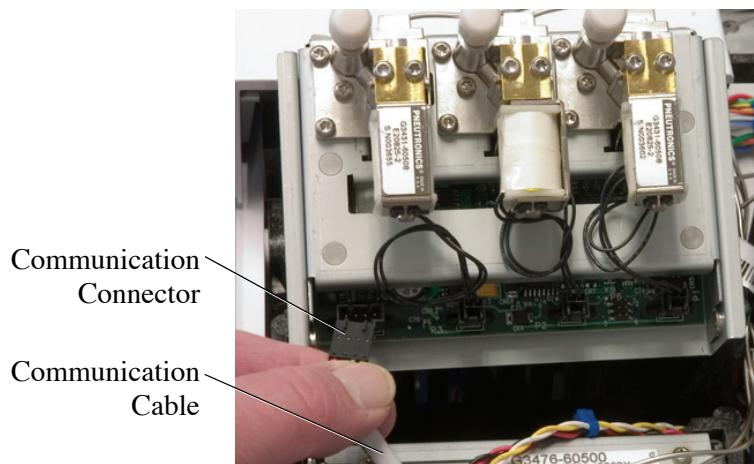

Figure 3.7. Attaching the communication cable to the EPC module
3. Attach the communication cable to the EPC module (refer to Figure 3.7).